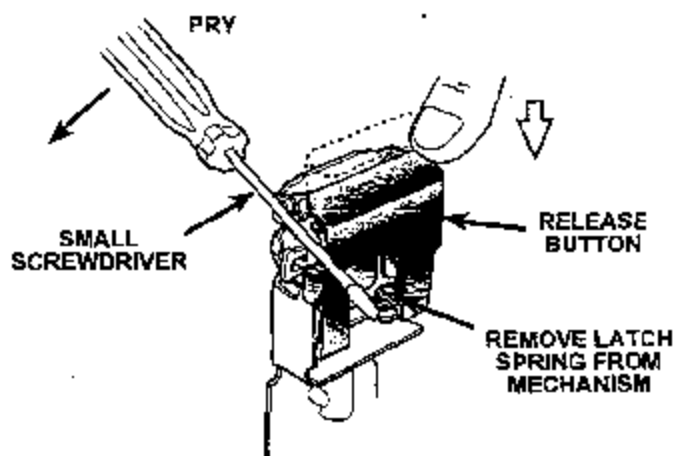

FIGURE 4
9. Depress the release button and then disconnect the lower loop of the latch spring from the buckle mechanism using a small screwdriver or pick (Figure 4).